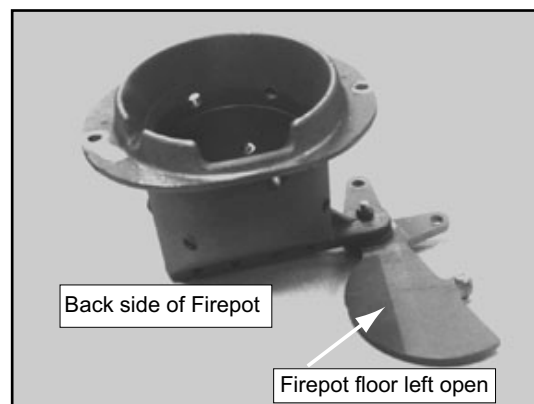

Figure 24.1 - DO NOT LEAVE FIREPOT FLOOR OPEN
- The firepot floor plate must be fully closed when finished. **See Figure 24.1 on page 24.**